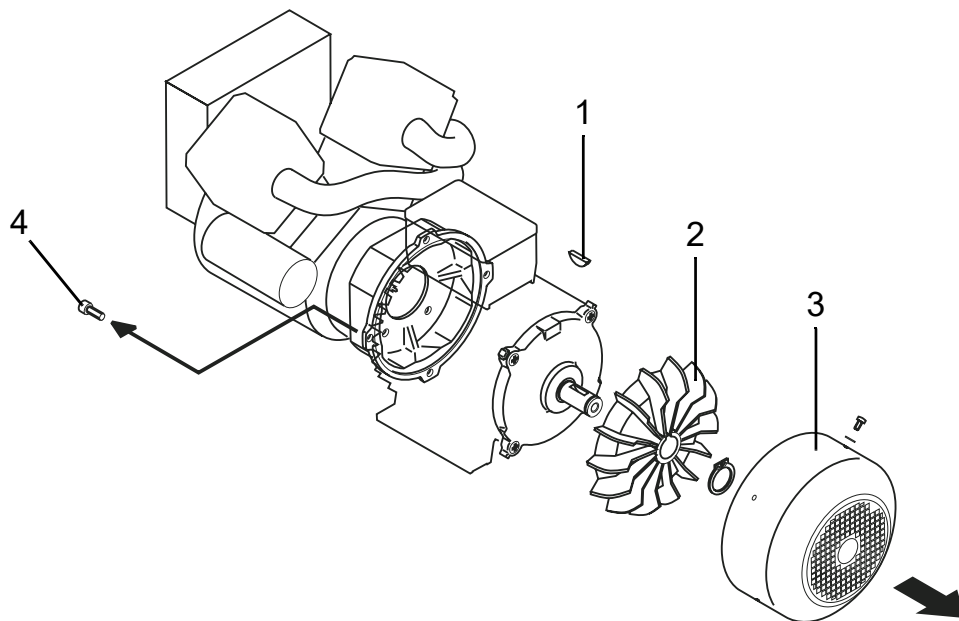

Fig. 35 Disassembly of brushless single-bearing generators (1)
- ⇒ **Fig. 35, Disassembly of brushless single-bearing generators (1), page 109,**
- > Remove the fan wheel cover [3] (Figure 35) and fan wheel [2] from the generator.